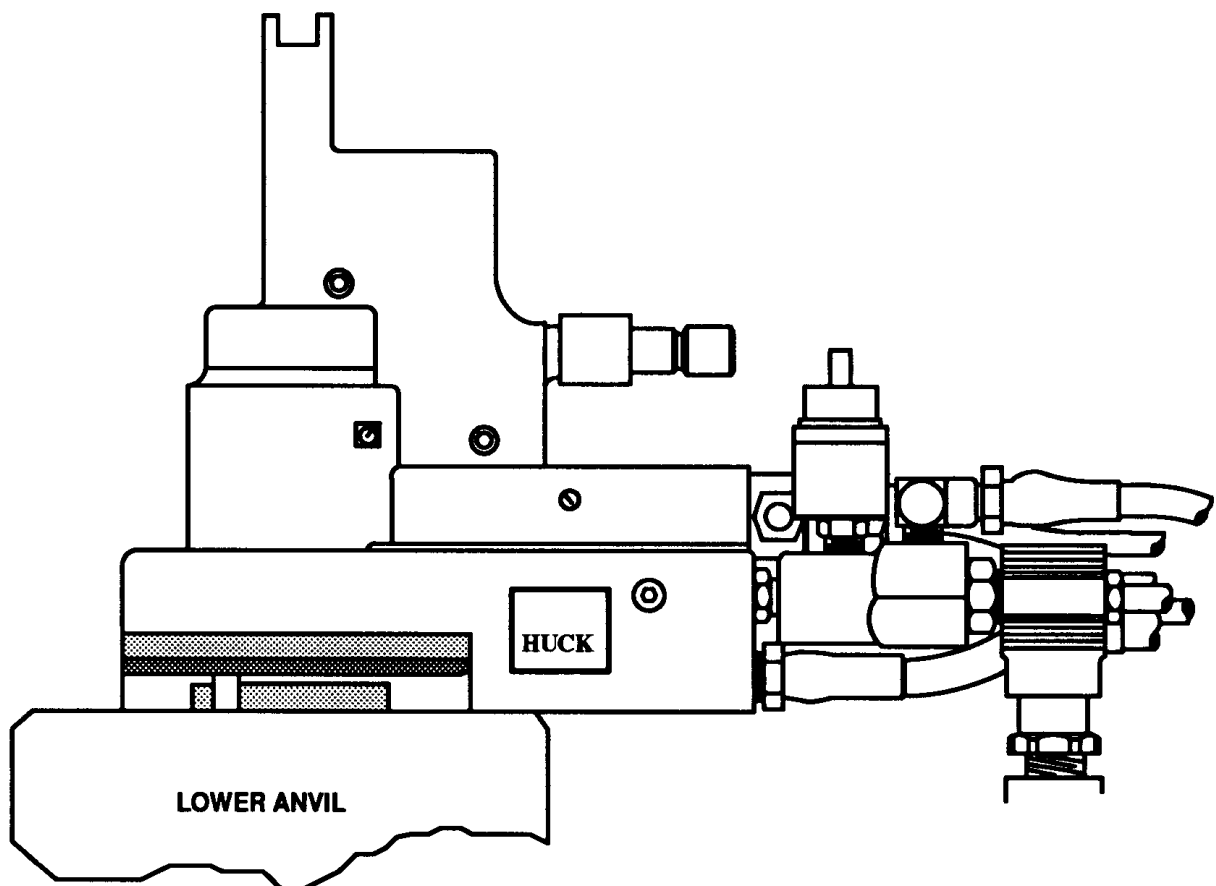

Figure 4 - Automatic Collar Feeder
Step 1. Place the automatic collar feeder (see Figure 4) on the lower anvil post and align it with the upper anvil.